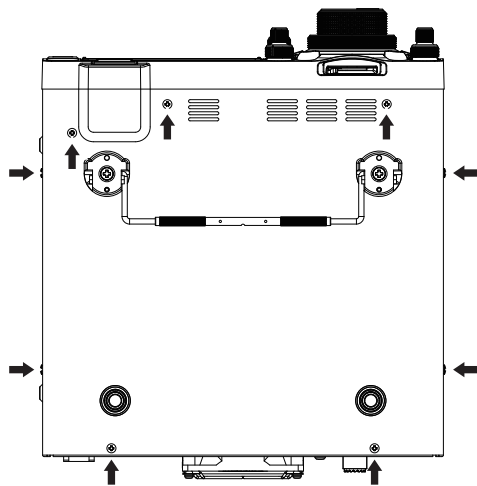

Figure 1
2. Referring to Figure 1, remove the 9 screws attaching the bottom case, then remove the bottom case.